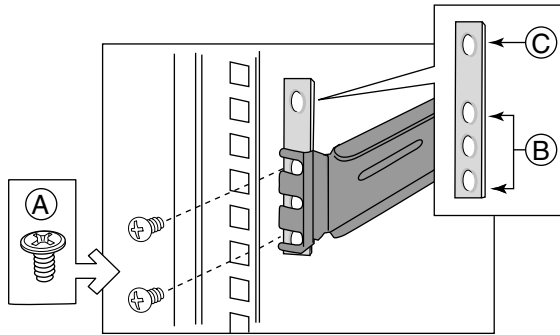

Figure: Step 5
- 5** Attach all four rail brackets to the cabinet rack. Be sure that the sharper angled side of each bracket is facing up (C in Figure Step 5). Use eight mounting screws provided by the manufacturer of the cabinet rack. In the illustration to the right, the left photo (A in Figure Step 5) shows the left-front bracket attached to the cabinet, while the right photo (B in Figure Step 5) shows the left-rear bracket. (The illustration shows the rails inside the brackets. You should not have the rails attached inside the brackets yet.)